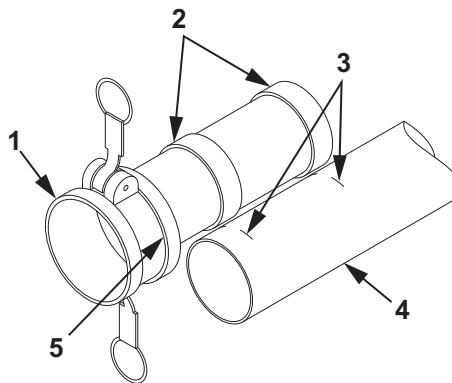

Figure 3. 4 In. Discharge Hose Repair.
8. Using the male or female coupling half (Figure 3, Item 1) as a guide, align the cut end of one section of hose (Figure 3, Item 4) with the machined stop (Figure 3, Item 5) of the male or female coupling half (Figure 3, Item 1).
9. Using a marking pen, mark two lines (Figure 3, Item 3) on the hose (Figure 3, Item 4) where the hose barbs (Figure 3, Item 2) will be located.